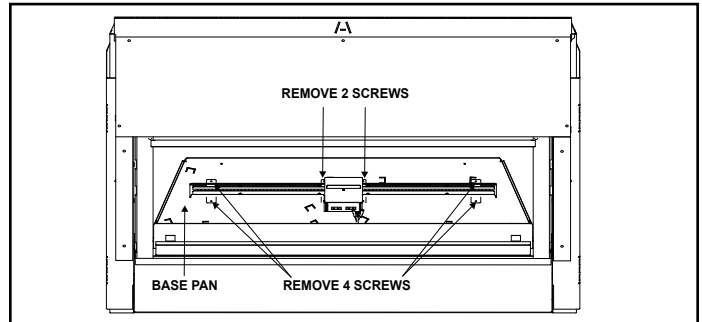

Figure 2. Base Pan and Burner Assembly Removal
3. Remove base pan by removing 4 screws. Remove burner assembly by removing two screws that secure the burner to the pilot assembly bracket. See Figure 2.